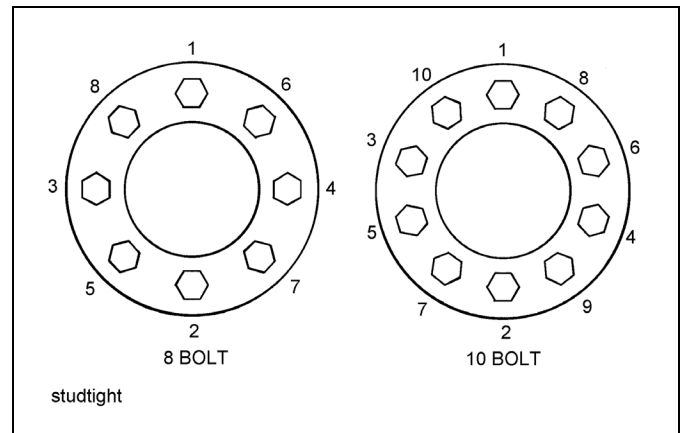

Figure 4-20: Stud Tightening Sequence
4. Install the flange nut and tighten to 50 foot-pounds using the sequence in **Figure 4-20**. Then tighten to full torque of 450 to 500 foot-pounds.